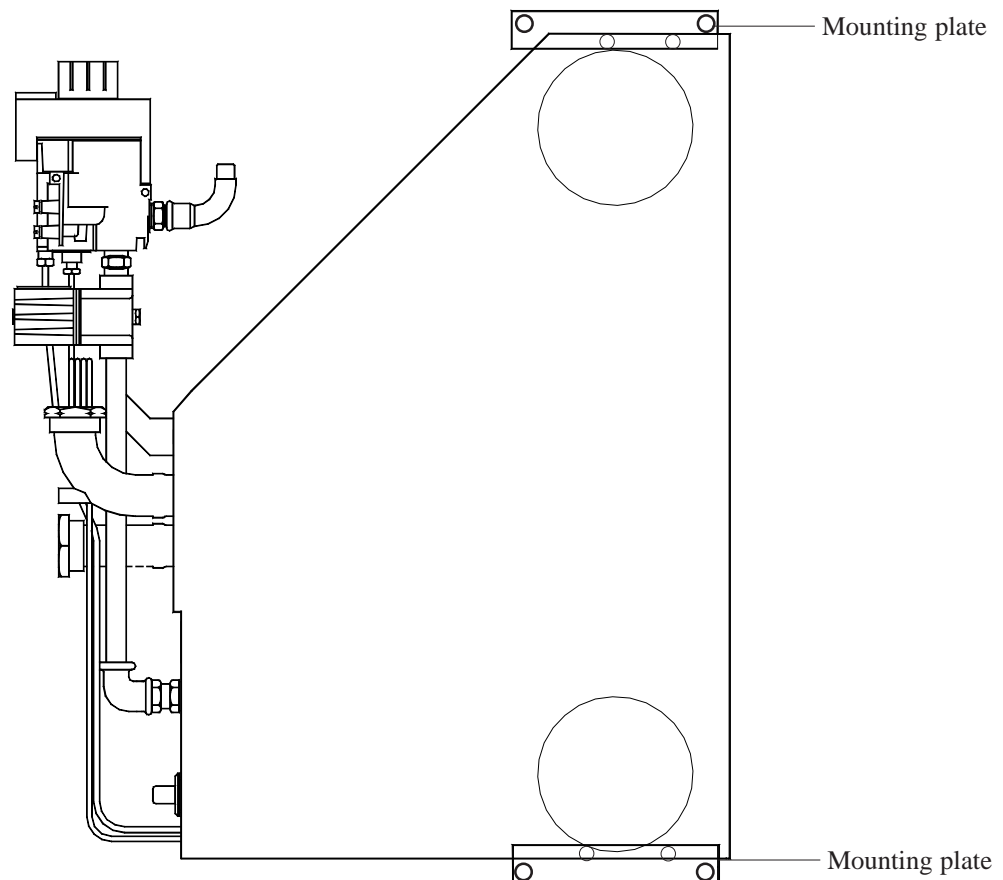

Fig. 5
- 4.7.4 Referring to Fig. 5, fit the mounting plates to the water heater as shown, using 4 x M5 screws and nuts (provided) ensuring that the screw heads are on the spigot side and noting the orientation of the mounting plates ('long' end towards the appliance controls).